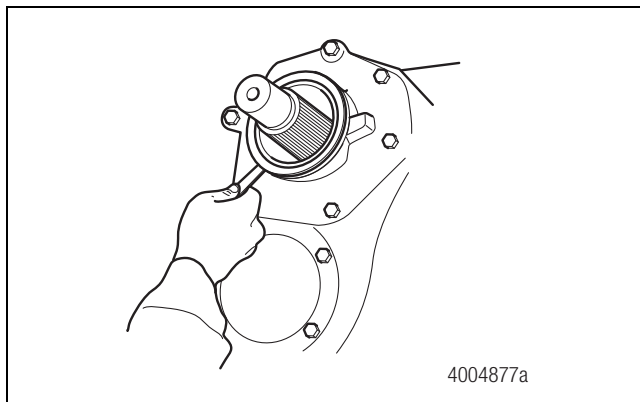

Figure 12
9. Use a feeler gauge to check the seal gap. The seal is correctly installed if the gap is less than 0.005-inch (0.127 mm) around the circumference of the seal flange. Figure 12.